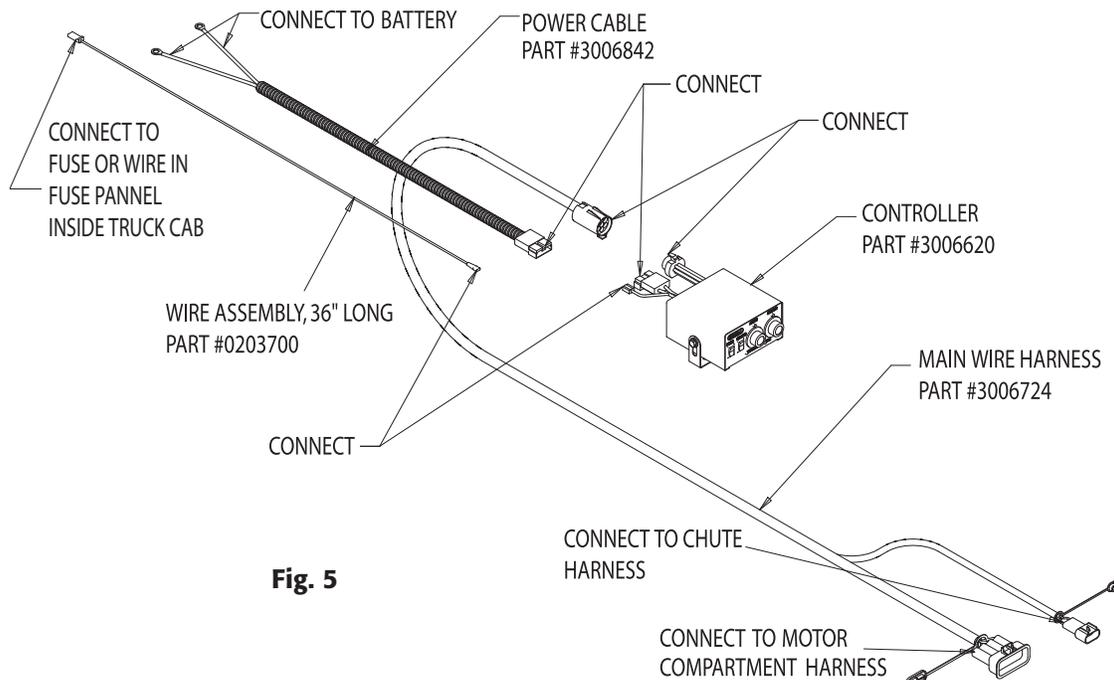

Fig. 5
G. Make sure that the Controller is OFF. Connect blue wire's small female terminal to Controller's Ignition wire. Connect the blue wire from the Controller to an accessory wire/terminal that is controlled by the vehicle's ignition switch. (Fig.5)